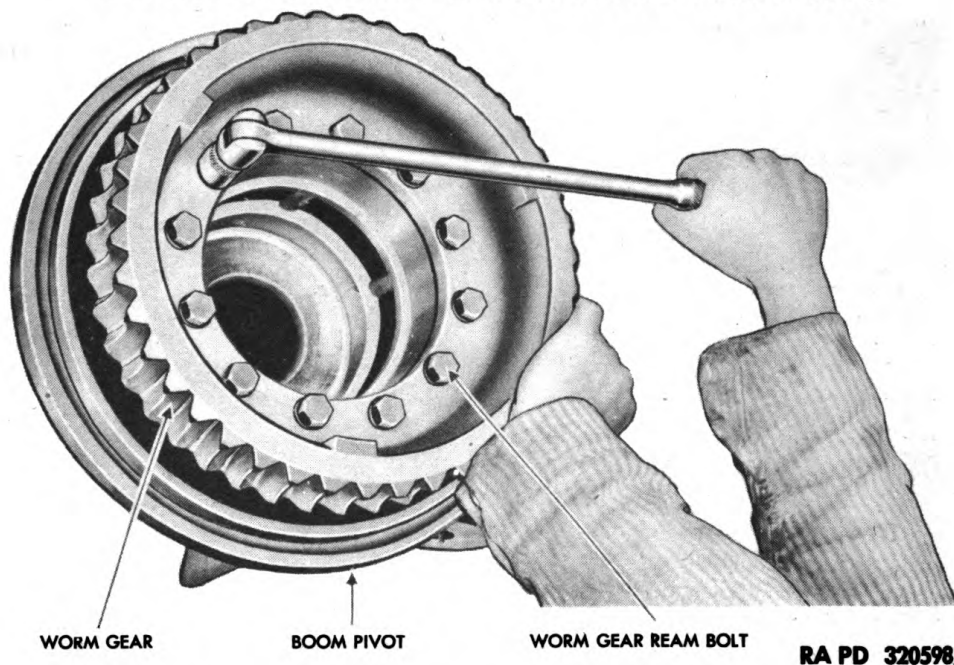

Figure 37 — Installing Pivot Worm Gear
inch ream bolts and lock washers attaching the worm gear to the boom pivot, being careful not to damage gear teeth (fig. 37). Pry worm gear off the boom pivot.
(4) If the worm bearing carrier bushing requires replacement, the bushing will have to be destroyed to be removed. Drive the bushing out and press a new bushing in position until it shoulders against its bearing carrier seat. Ream the bushing after installation to 1.500 inches.
a. **Install Spindle Bearings.** With the boom pivot inverted, place the worm gear on the pivot and, using new ream bolts and lock washers, bolt the worm gear to the boom pivot securely (fig. 37). Install the bearings on the boom pivot base spindle, keeping in mind that the two lower spindle bearings are mated in pairs; if one is renewed, the other must be renewed. When installing the bearings on the spindle, either press them on, or drive them on by applying pressure or driving on the inner race only. Install the upper spindle bearing in the same manner as described above (fig. 38).